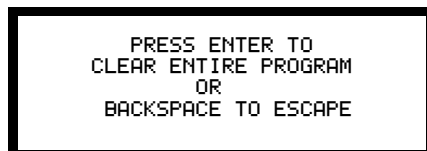

Figure 55 Clear Program Screen
1. From the Program Change screen (Figure 53), press the **0** key. The Clear Program screen displays a verification prompt as shown in Figure 55: